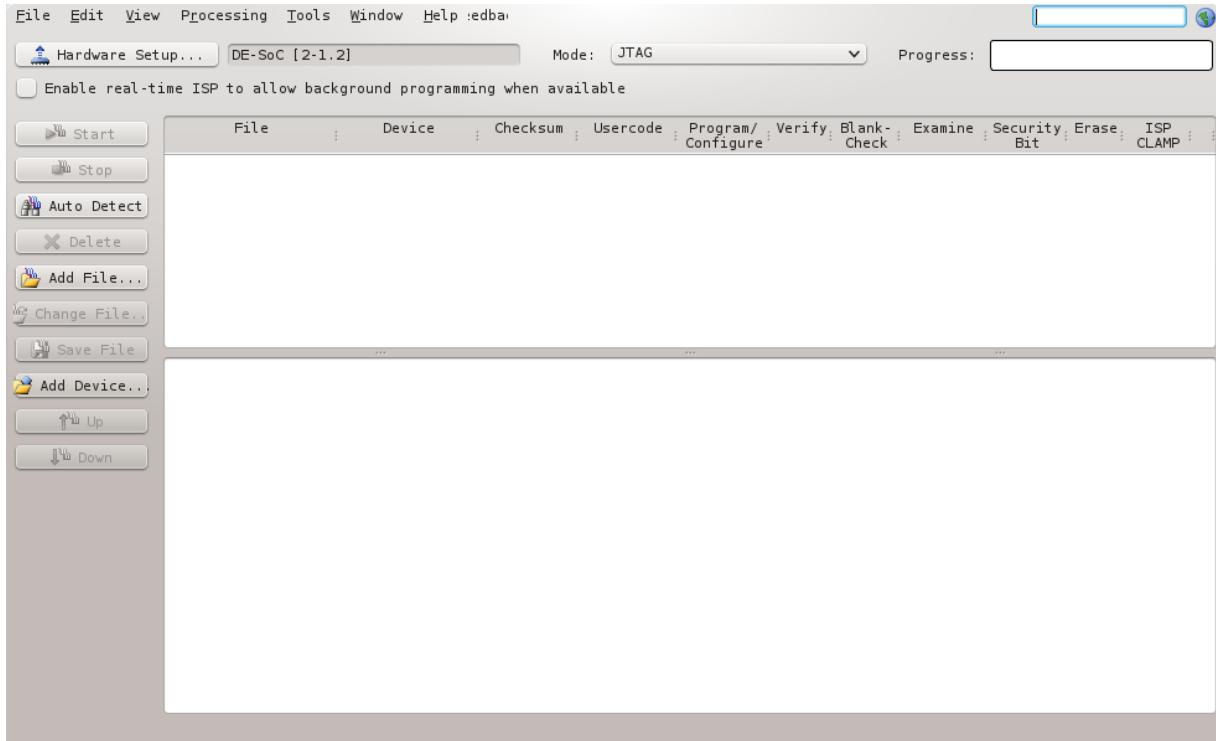
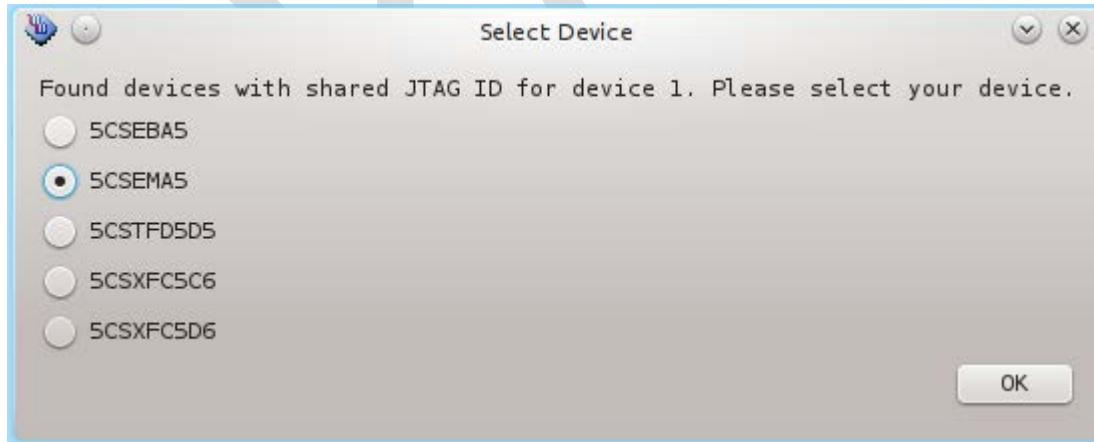

Figure 8-15. Quartus II Programmer
Figure 8-16. FPGA Selection
36. Choose the “Auto Detect” button on the left of Figure 8-15, then choose “5CSEMA5”, as shown in Figure 8-16.